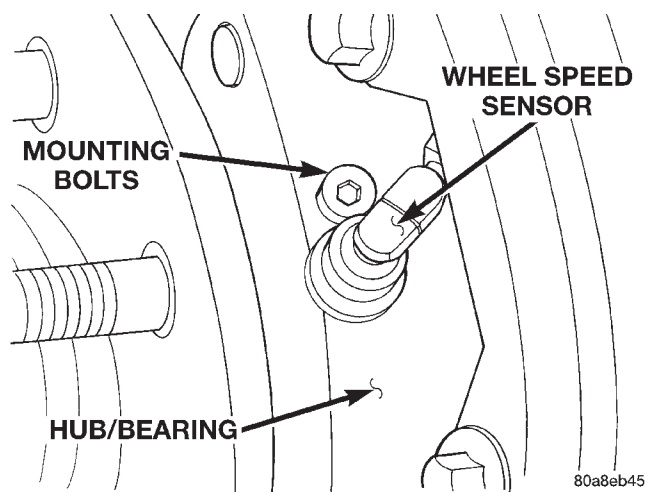

Fig. 8 Wheel Speed Sensor
- (1) Raise and support vehicle.
- (2) Remove wheel and tire assembly.
- (3) Remove brake caliper and rotor.
- (4) Remove bolts attaching sensor to hub/bearing (Fig. 8).
- (5) Remove clamps securing sensor wire to control arm and inner fender panel.
- (6) In engine compartment, disconnect sensor wire and remove sensor.